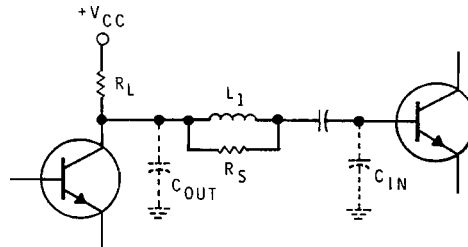

Figure 2-57
37. (shunt) Another peaking method is shown in Figure 2-57. This type of peaking is superior to shunt peaking because it \_\_\_\_\_ the output capacitance of the first stage from the input capacitance of the second stage.
38. (isolates or separates) Inductor  $L_1$  in Figure 2-57 is effectively in series with the video signal path, therefore, this is known as \_\_\_\_\_ peaking.